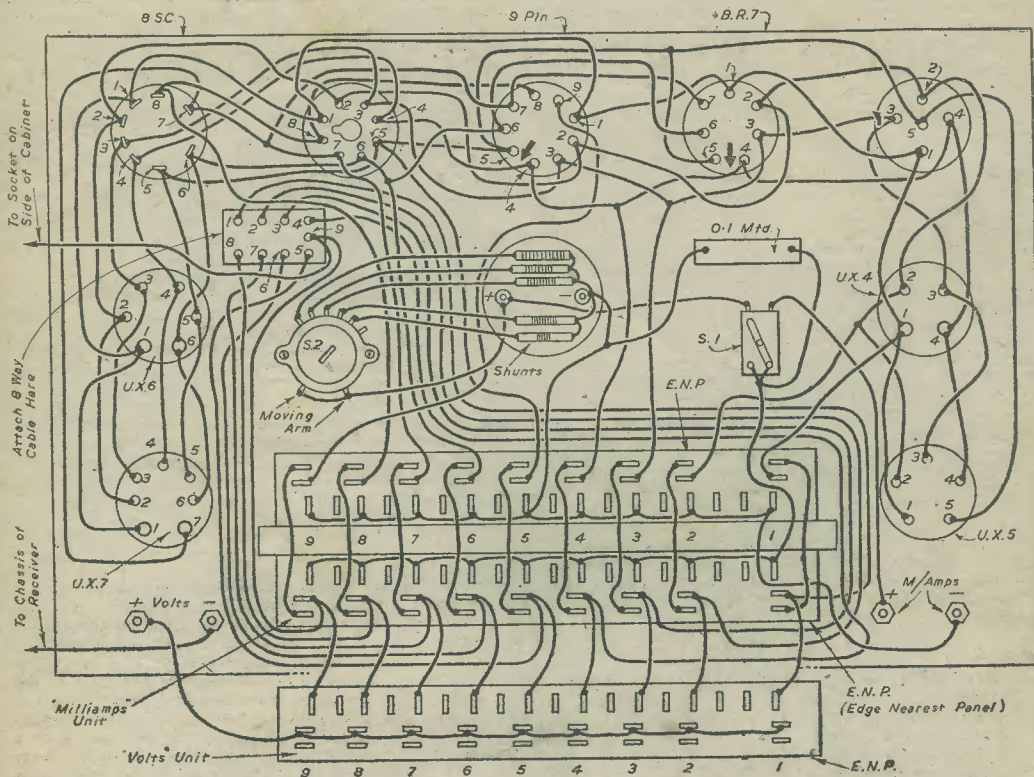

Fig. 4.—Wiring diagram of the valve analyser. For clarity the "m/amp" unit is shown opened out and the "volts" unit flat (one side only.)
P.B. units together with the leads to the 9-way anchorage plate shown in the wiring diagram, Fig. 4. It should be noted that the standard B.V.A. pin numbering has been adopted for all valve holders so that when wiring these it is advisable to have the information at hand. The data may be obtained from many text-books in the PRACTICAL WIRELESS series. By studying the wiring diagram it will be seen that a wire runs to pin No. 1 on all valve holders, and to a point on the "milliamps" switch operated by No. 1 button. Next, from all-number 2 valve holder pins to the switch worked by No. 2 button and so on up to No. 9. After this, the meter and its switching may be wired up and finally the 8-way cable attached to the anchorage plate shown. To the other end of this cable an octal valve base is fitted. Incidentally, make sure that it has 8 pins. It is, of course, essential that the correct numbering should also be observed here. The lead from No. 9 on the anchor plate connects to a socket attached to the side of the cabinet and a flexible lead from the "volts neg." socket goes through the cabinet and terminates in a crocodile clip.